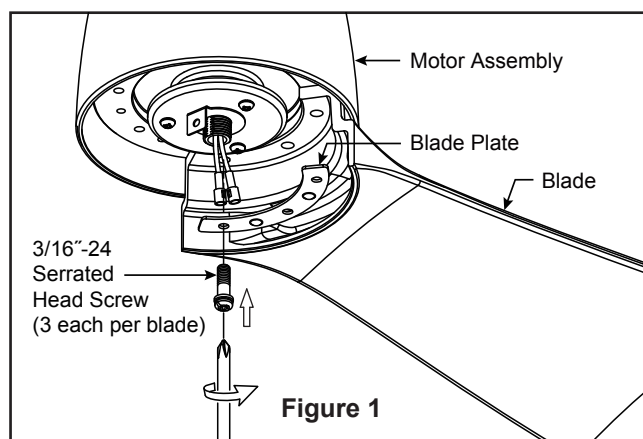

Figure 1
- ☐ 1. Assemble canopy by rotating key slot in canopy over shoulder screw in hanger bracket, taking care not to pinch the wires. Tighten shoulder screw. Fully assemble and tighten second shoulder screw that was previously removed. (Figure 1)
1. Align blade holes with posts on the motor assembly flywheel. Make sure the blade is fully seated against the flywheel. Place blade plate over the blade with holes aligned and assemble blade to flywheel using serrated head screws, fully tighten the screws that attach the blades to the motor assembly flywheel. (Figure 1)